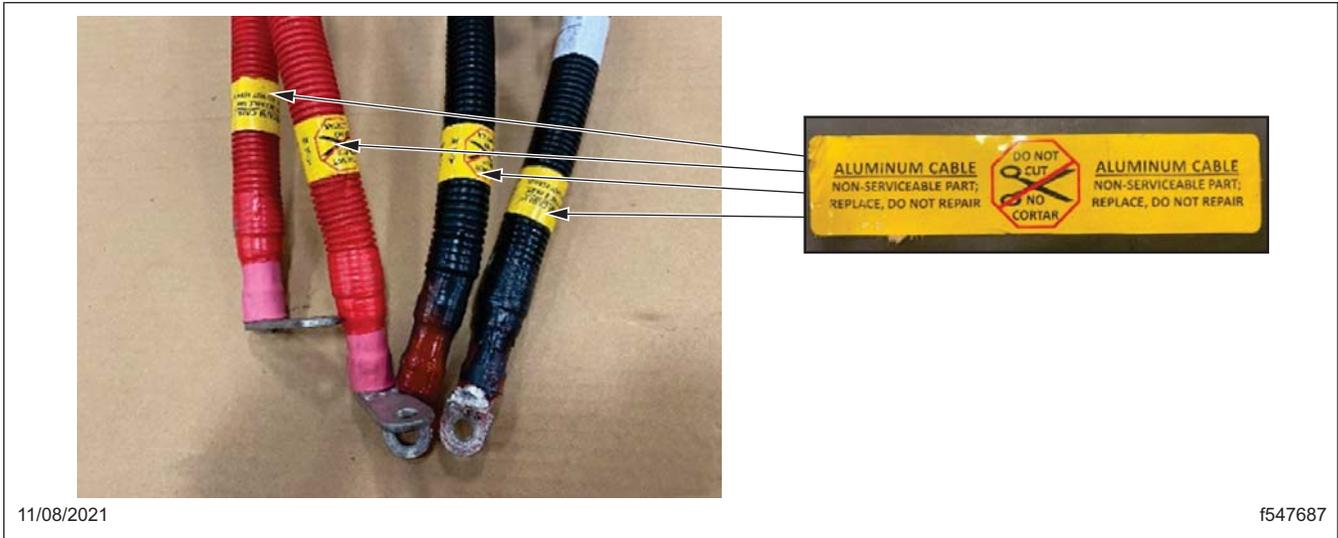

Fig. 16, Powernet Battery Cables Made of Aluminum
- The aluminum 4/0 cables are attached with a yellow label on each end indicating they are made of aluminum. See Fig. 16.